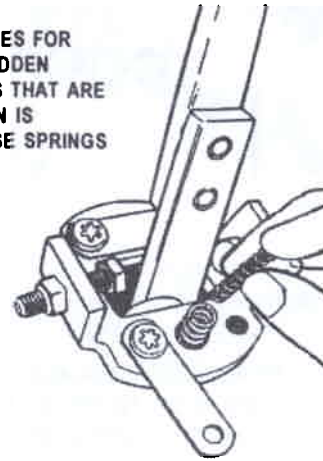

FIG. 3
13. Loosen both Torx head screws using a No. 30 Torx head driver bit. Remove one screw and slide retainer away to expose springs. Remove inner (smaller) spring only. Replace retainer and screw. Tighten both screws to 125-150 inch pounds. Repeat this procedure on opposite side. (Refer to Fig. 3) **NOTE: If you are not satisfied with the "softer" shifter stick tension, re-install inner springs.**